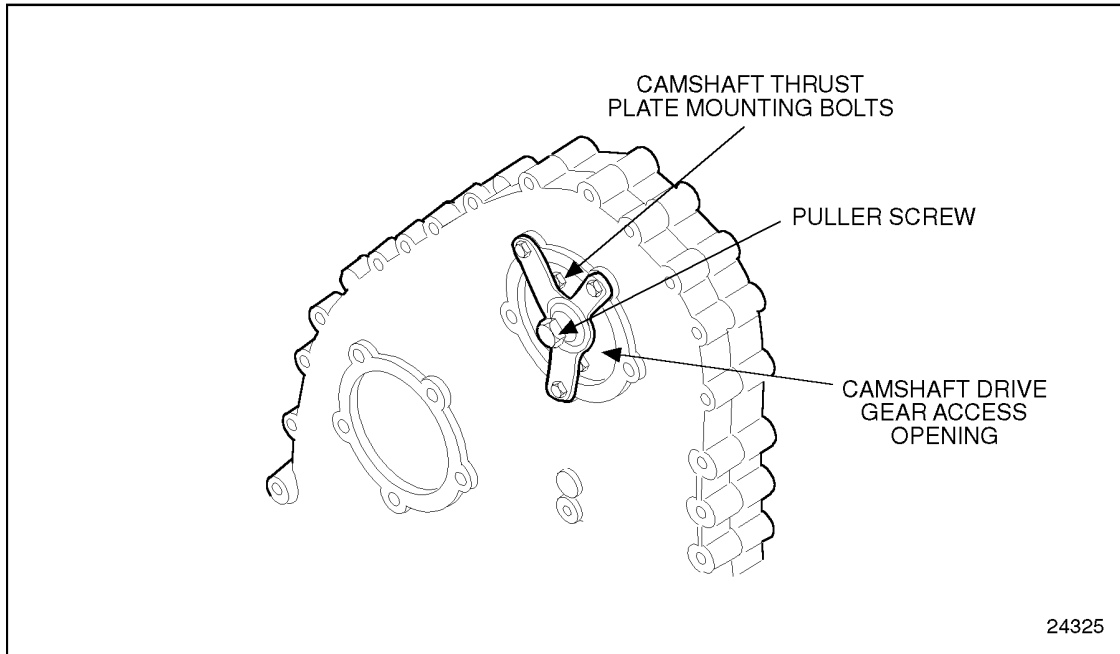

Figure 1-300 Camshaft Gear Pilot
11. Install the camshaft gear pilot, J 35906-6, to the camshaft drive gear access opening, using three of the access cover bolt holes. Engage the puller screw (select proper size screw) in the threads of the camshaft drive gear hub, until the screw is tight. See Figure 1-300.